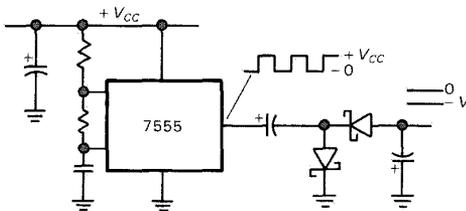

Figure 14.23. Negative-voltage generator from a positive square wave.
3. Figure 14.23 shows a simpler method, again somewhat limited in voltage range, using the CMOS 7555 timer chip. You can power the 7555 from a positive supply in the range 2 to 18 volts, thus generating up to  $-15$  volts or so. With a voltage multiplier (see Section 1.28) you can, of course, generate higher voltages, with correspondingly poorer regulation. If you have some CMOS logic in your circuit, you can use the output of a CMOS gate instead of the 7555. However, if you’re using a high-performance CMOS family such as HC/HCT or AC/ACT, then you are limited to 5 volt logic swings, whereas the older 4000 or 74C series permit 15 volt swings, albeit at lower current.